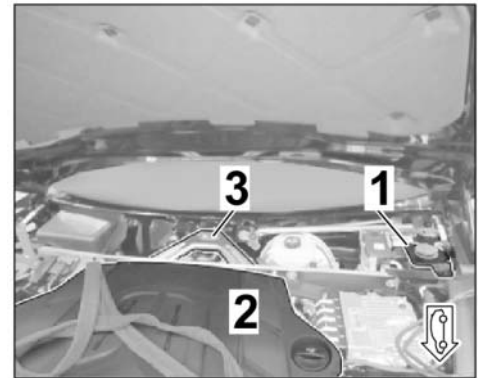

Figure 11
1.6 Exposing plenum panel area ⇒ *Figure 11*